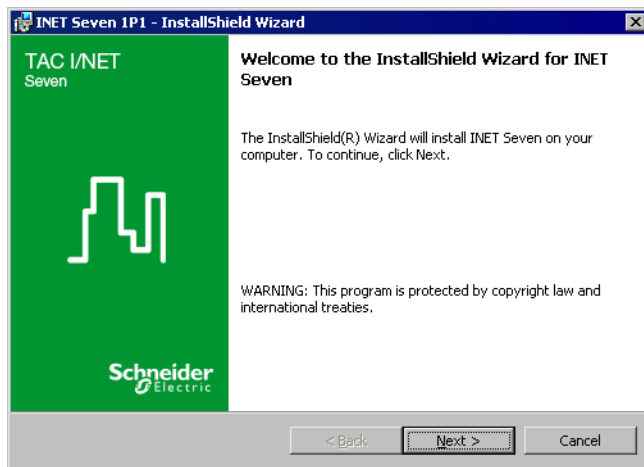

Figure 2-3. Welcome Screen
6. The TAC I/NET Seven Welcome screen appears (see Figure 2-3). Review the information and click **Next** to continue.